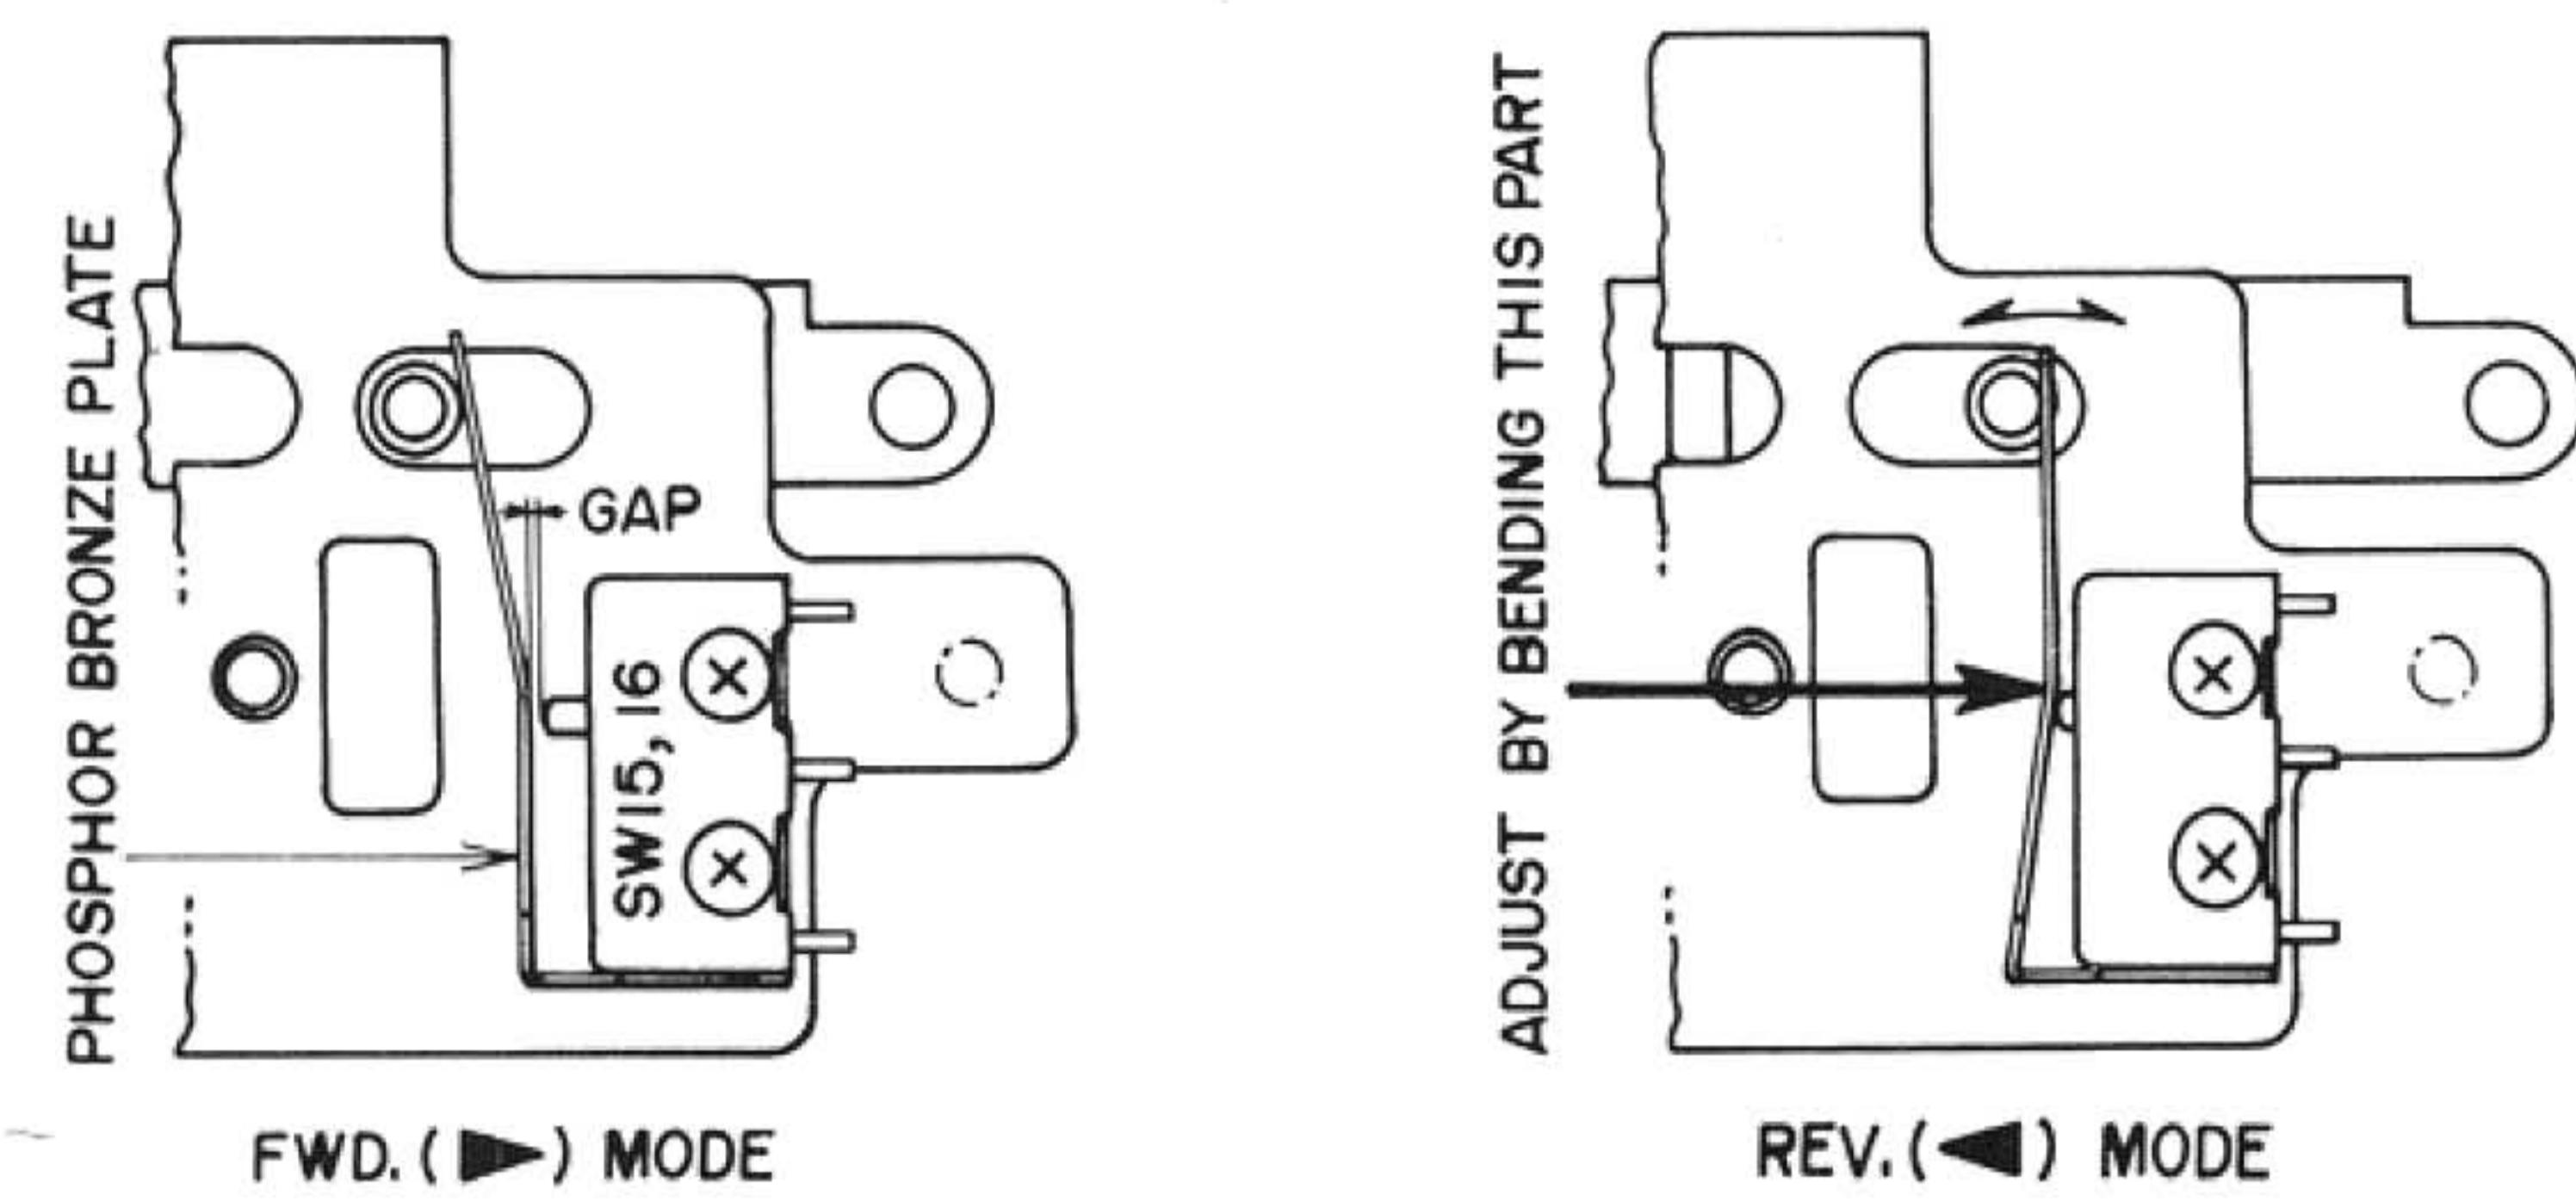

Fig. 11
- 1) At FWD mode, (►) there should be a gap between the phosphor bronze plate, and the micro switch should be completely inactivated. (Fig. 11, left)
- 2) At REV mode, (◀) the phosphor bronze plate should depress the micro switch so that it operates perfectly. (Fig. 11, right)
- 3) In case the micro switch does not operate perfectly, adjust by bending the phosphor bronze plate as shown in Fig. 11 (right).